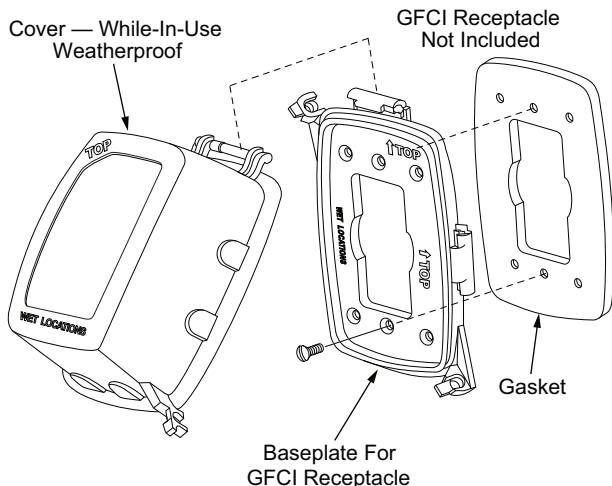

Fig. 26 — Weatherproof Cover Installation
4. Mount the weatherproof cover to the backing plate as shown in Fig. 26.